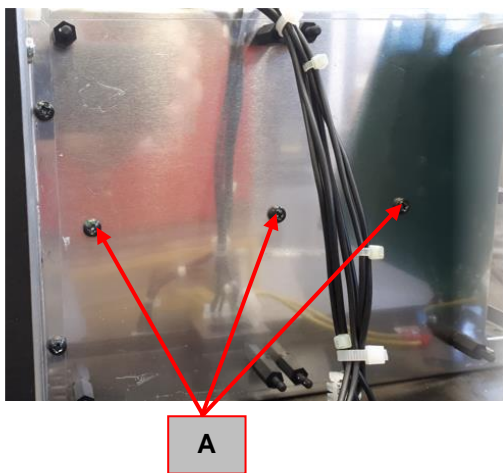

Figure 27
5. Using the PH02 screwdriver remove the three screws (A) that are behind the Aux. Powr and EMI Filter board. See **Figure 27**